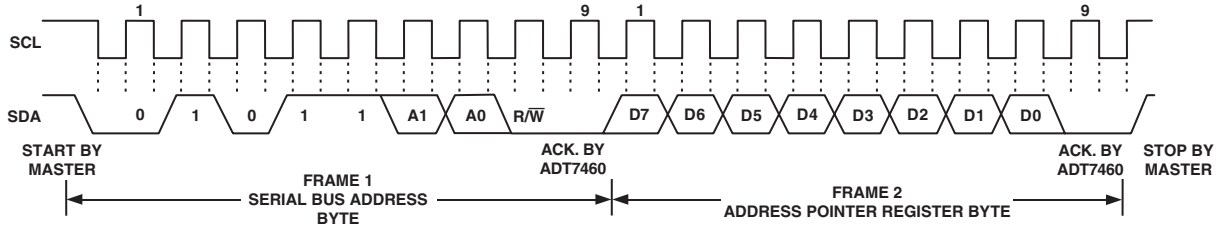
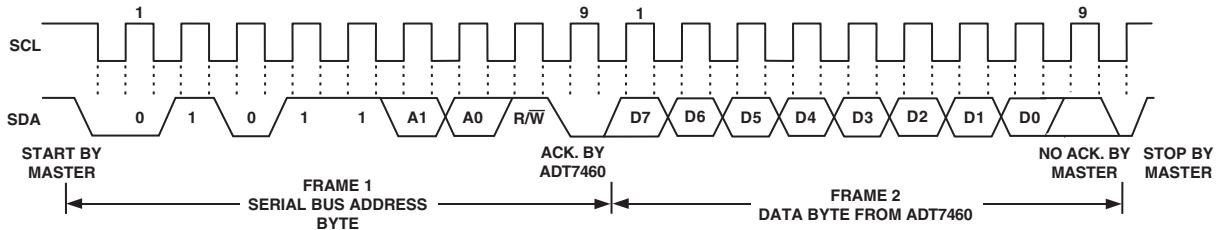

Figure 8. Writing to the Address Pointer Register Only
Figure 9. Reading Data from a Previously Selected Register
1. If the ADT7460's Address Pointer Register value is unknown or not the desired value, it is first necessary to set it to the correct value before data can be read from the desired data register. This is done by performing a write to the ADT7460 as before, but only the data byte containing the register address is sent as data is not to be written to the register. This is shown in Figure 8. A read operation is then performed consisting of the serial bus address, R/\overline{W} bit set to 1, followed by the data byte read from the data register. This is shown in Figure 9.
2. If the Address Pointer Register is known to be already at the desired address, data can be read from the corresponding data register without first writing to the Address Pointer Register, so Figure 8 can be omitted.